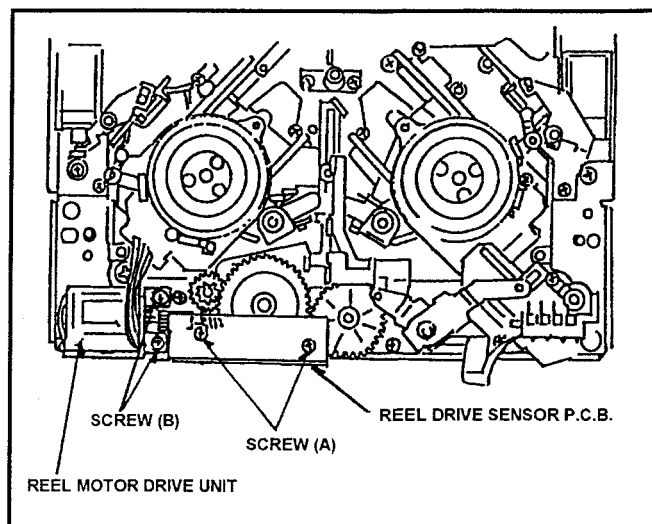

Fig. 6-16-1 Removal of Reel Drive Motor Unit
6. Unscrew the 2 screws (A) and remove the Reel Drive Sensor P.C.Board as shown in Figure 6-16-1.
7. Unscrew the 2 screws (B) and remove the Reel Drive Motor Unit as shown in Figure 6-16-1.